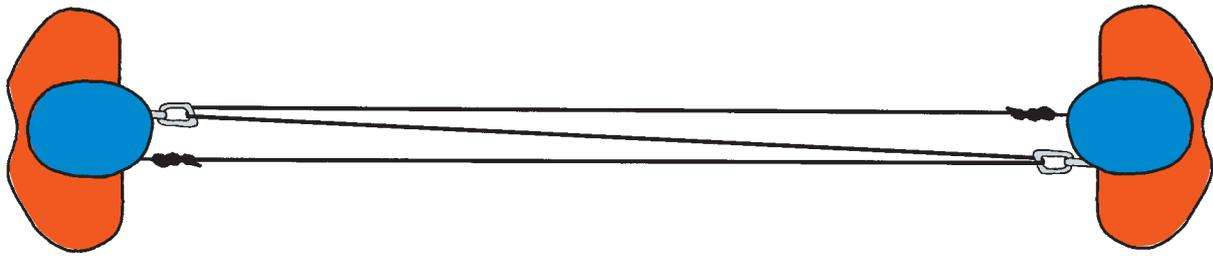

Figure 9.6a Two person rope-up
- 3 Divide the rope as per Figure 9.6a.